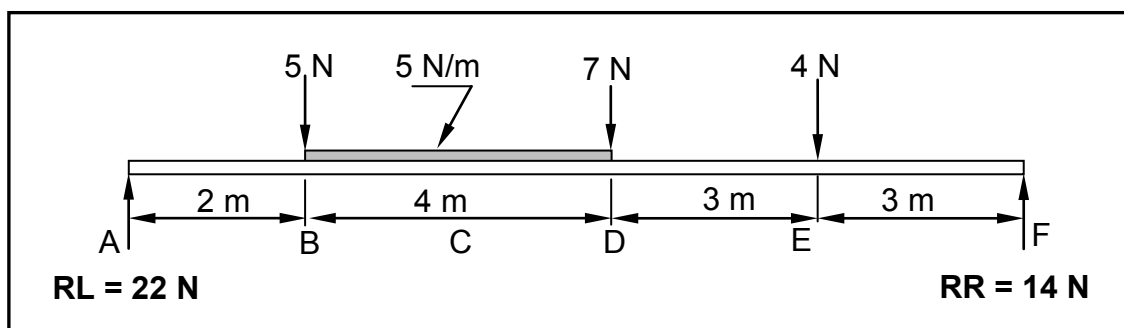

FIGURE 5.3
- 5.3 FIGURE 5.3 below shows the space diagram of a beam with a span of 12 metres, with three point loads and a uniformly distributed load. Study the diagram and answer the questions that follow.